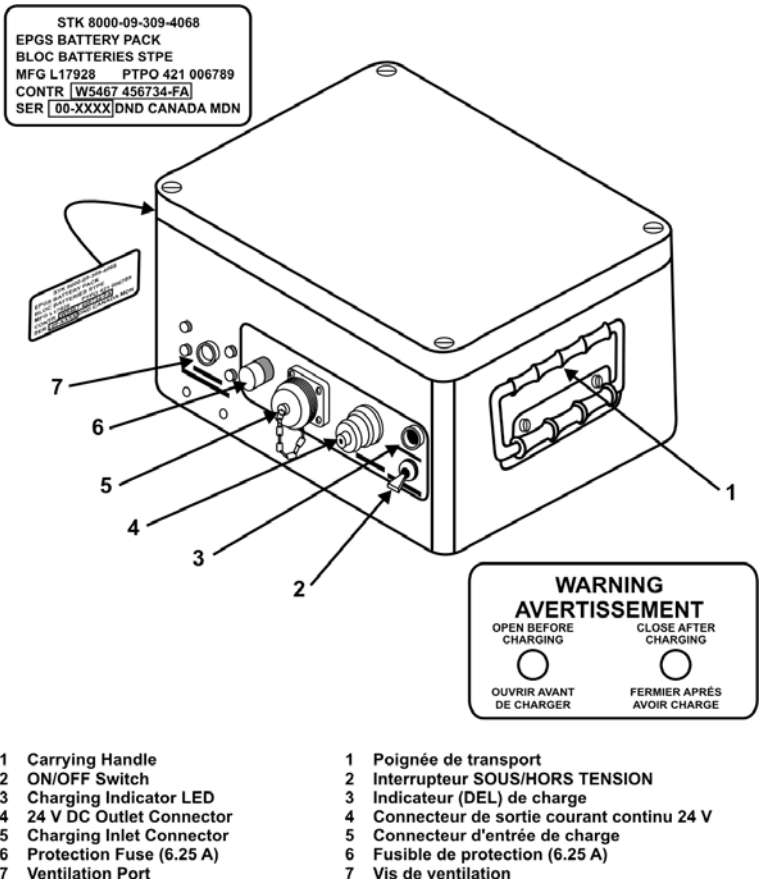

Figure 5-7: Battery Pack
18. **Battery Pack.** The Battery Pack (see Figure 5-7) is a sealed unit containing an assembly of dry (gel) lead-acid batteries connected in series to provide a portable 24 V DC power source for the firing system. Two connectors are provided on the Battery Pack: